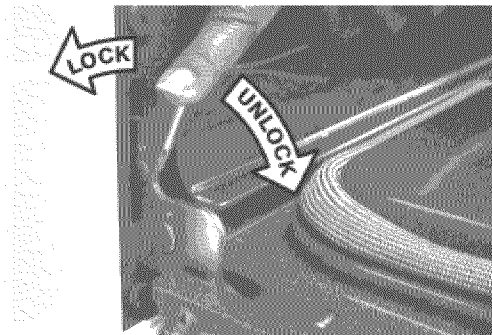

Fig. 2
2. Pull the door hinge locks on both left and right door hinges down from the oven frame completely towards the oven door (Fig. 2). A tool such as a small flat-blade screwdriver may be required.
4. Push the door hinge locks up towards and into the oven frame on both left and right oven door hinges (Fig. 2) to the locked position; then close the oven door.